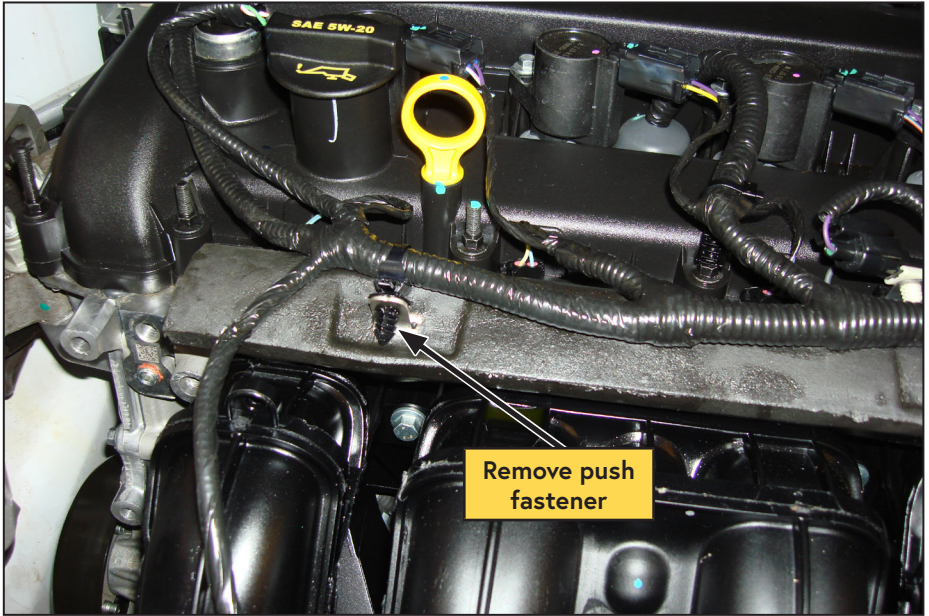

Figure 20 — Reroute harness
- Remove the push fastener securing the wiring harness to the passenger side of the engine and shift the harness into the "valley" in the valve cover (Figure 20).